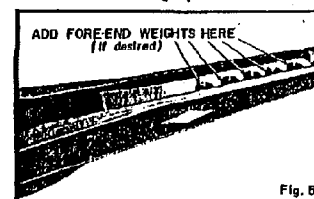

Fig. 5
FORE-END WEIGHTS (Fig. 5) - Five (5) cavities are provided inside fore-end (under barrel) for adding weights. Each cavity will hold a .38 caliber, metal case, 130 grain bullet (nose down). Barrel and action must be removed from stock to add weights. To Remove Barrel and Action: Remove bolt. Unscrew and disassemble forward and rear receiver screws. See exploded view. Lift barrel and action from stock. Insert weights and reassemble barrel and action to stock. Make certain nylon receiver screw washers (forward and rear) are in correct position against receiver during reassembly. Also that trigger balance remains centrally positioned on its pin in stock. This will enable top of balance to re-enter slot in trigger link easily. Make certain both receiver screws properly re-enter metal screw escutcheons in stock and tighten action securely.